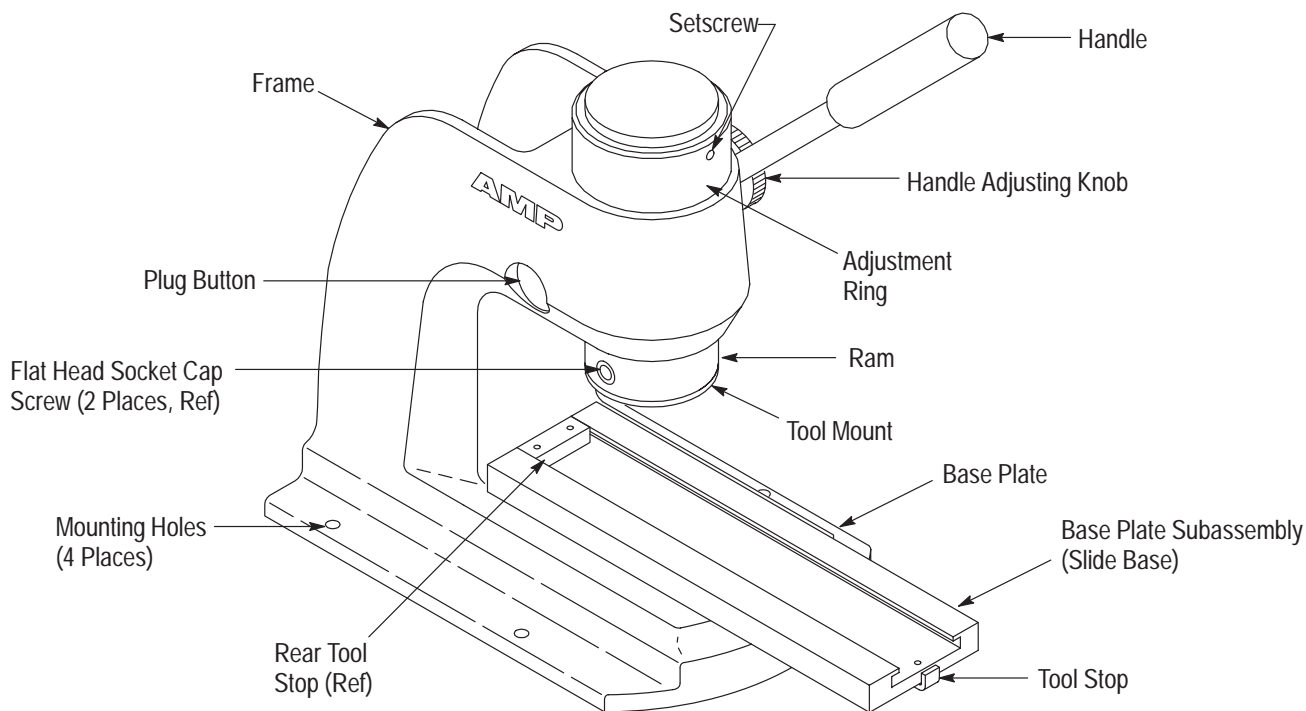

Figure 1
Manual Arbor Frame Assembly 91085-2, shown in Figure 1, provides the necessary force to drive various tooling assemblies (upper and lower tooling) to be used for a specific purpose.
- Modified Figure 1